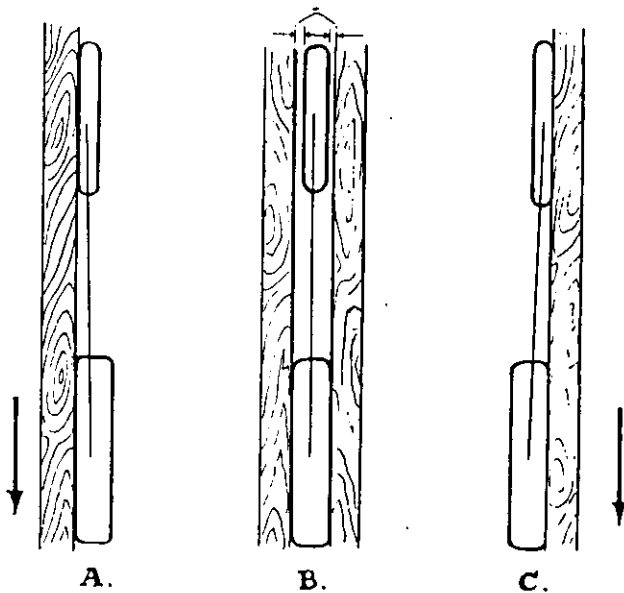

FIG. F.13. *Checking alignment.*
If the front tyre is of smaller section then it should be as drawing (B) Fig. F.13.